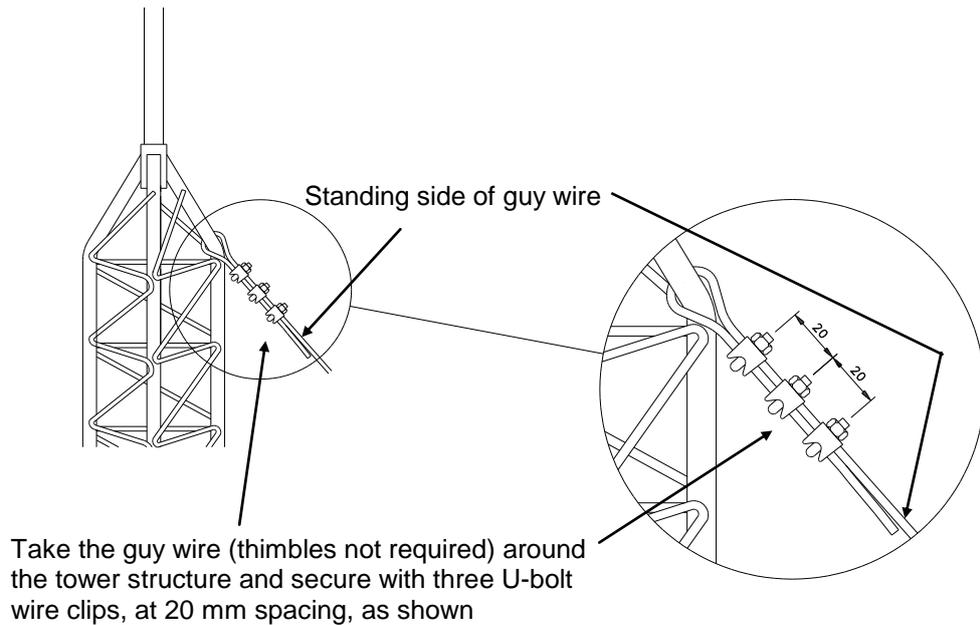
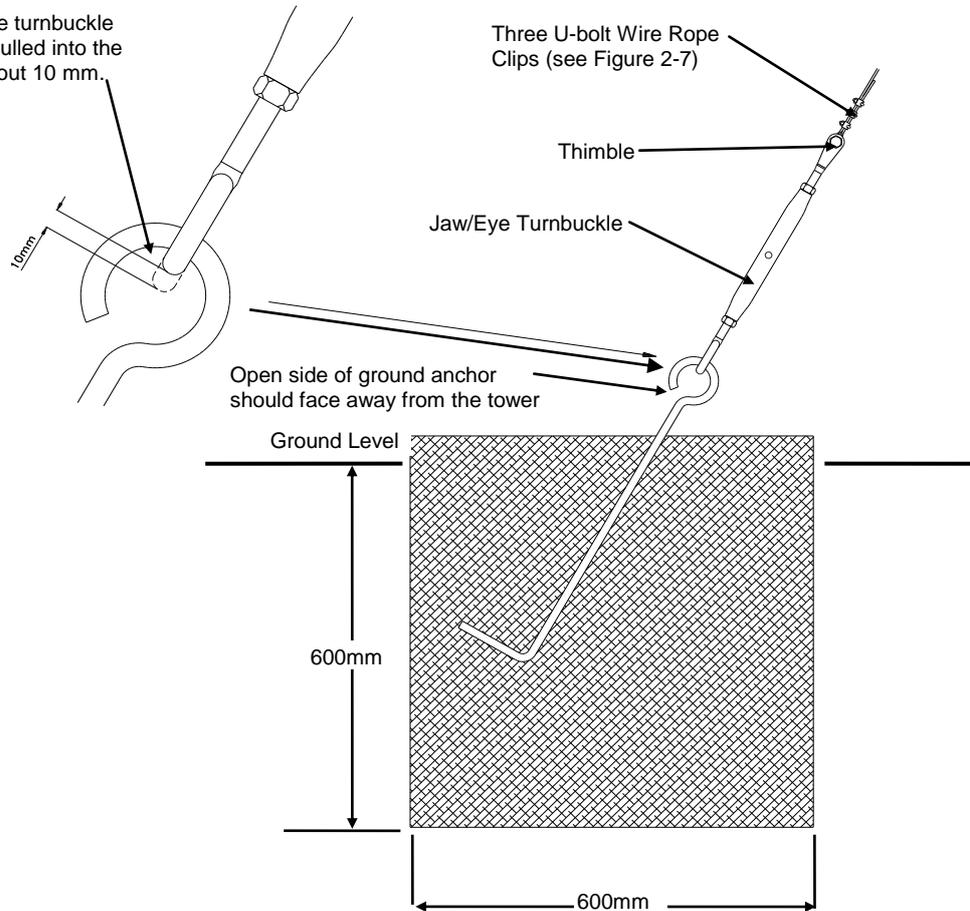

Figure 2-7 Installation of Guy Wires to Tower
Figure 2-9 Installation of the Guy Wires to the Ground Anchors
2. Attach the guy wires to the top tower section, taking each guy wire in turn around the structure and fitting it securely using *three* U-bolts for each wire, spaced as shown in Figure 2-7, below. Note the position of the ‘standing’ side of the guy wire.
NOTE All U-bolt Rope Clips must be fitted as shown in Figure 2-7, with three U-bolts at approximately 20 mm centres. The U-bolts should be on the short side of the guy wire and the nuts on the standing side.
Ensure that you have all parts of the guying kit to hand. Unscrew the jaw and eye bolts from each turnbuckle until about 25 mm of thread extends through the turnbuckle body. Attach the jaw end of the turnbuckles to the anchors, and, while holding the tower vertical, attach the guy wires to the eye end of the turnbuckles using one thimble and three U-bolts per guy wire as shown in Figure 2-7. The U-bolts should be fitted as shown, at a spacing of 20 mm, with the nuts on the 'live' side of the guy wire. Tighten the turnbuckles until it is *just* possible to pull the shackle by hand approximately 10 mm into the eye bolt, as shown in Figure 2-9.